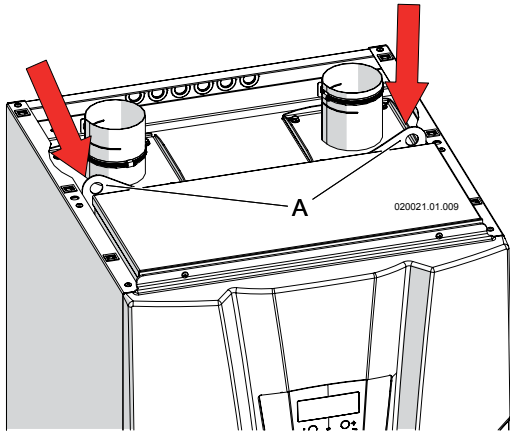

Figure 6-3 Bracket to lift the appliance
4. Access to the uplift brackett "A" (Figure 6-3) on the upper side of the heater (see Figure 6-3);